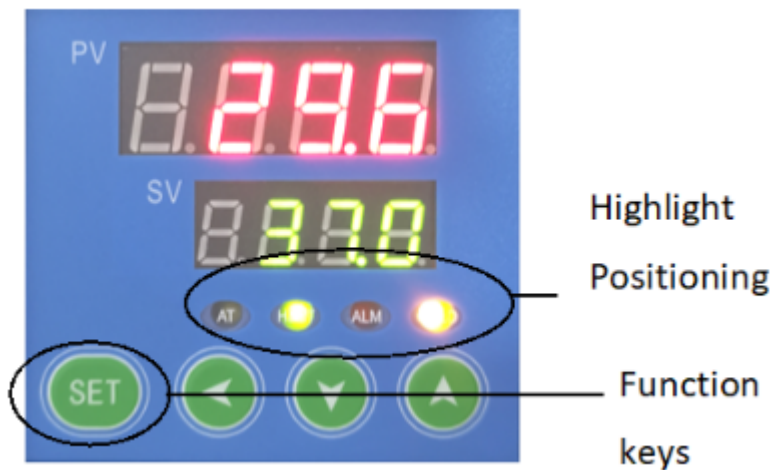

Figure 5
3.1 See Figure 5 Click "SET" key, The PV screen displays " **SP** ", SV screen displays the set temperature value.